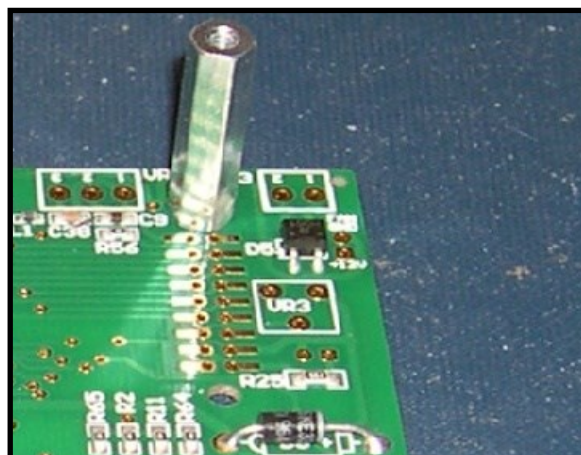

Figure 3b. Top right hand spacer by the D5 bridge rectifier.
- Use the short screws for all but the top right hand spacer by the D5 bridge rectifier (Figure 3b).